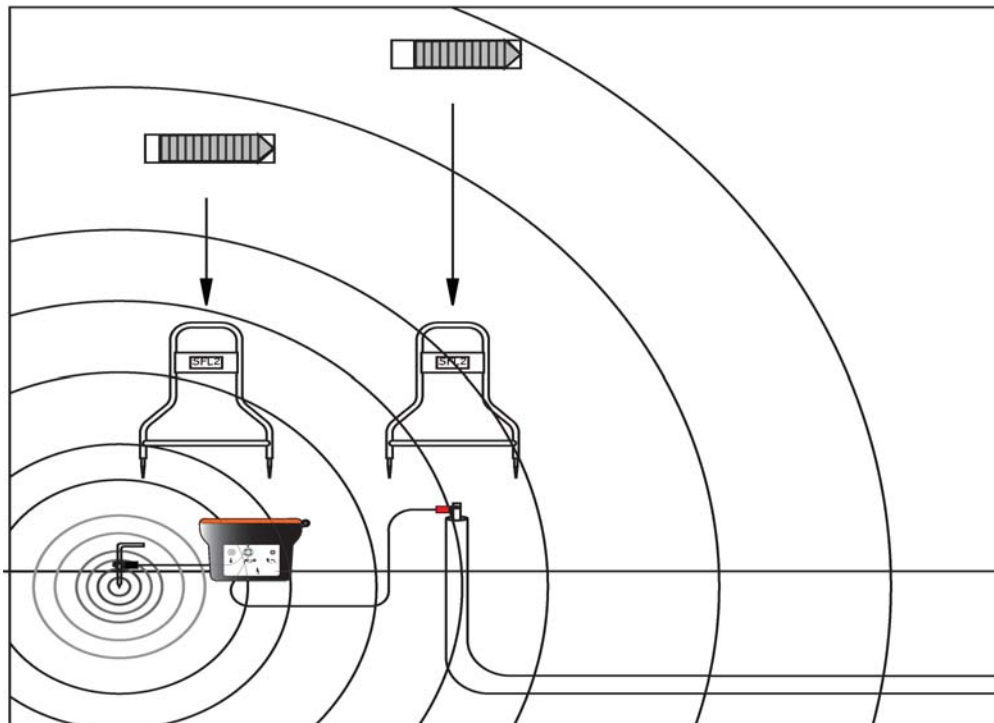

Figure 7-1: Synchronizing The A-frame
- 5 If the arrow points towards the ground spike, there is no fault. Recheck the grounds and connections if a fault is wrongly given. **See Figure 7-1.**